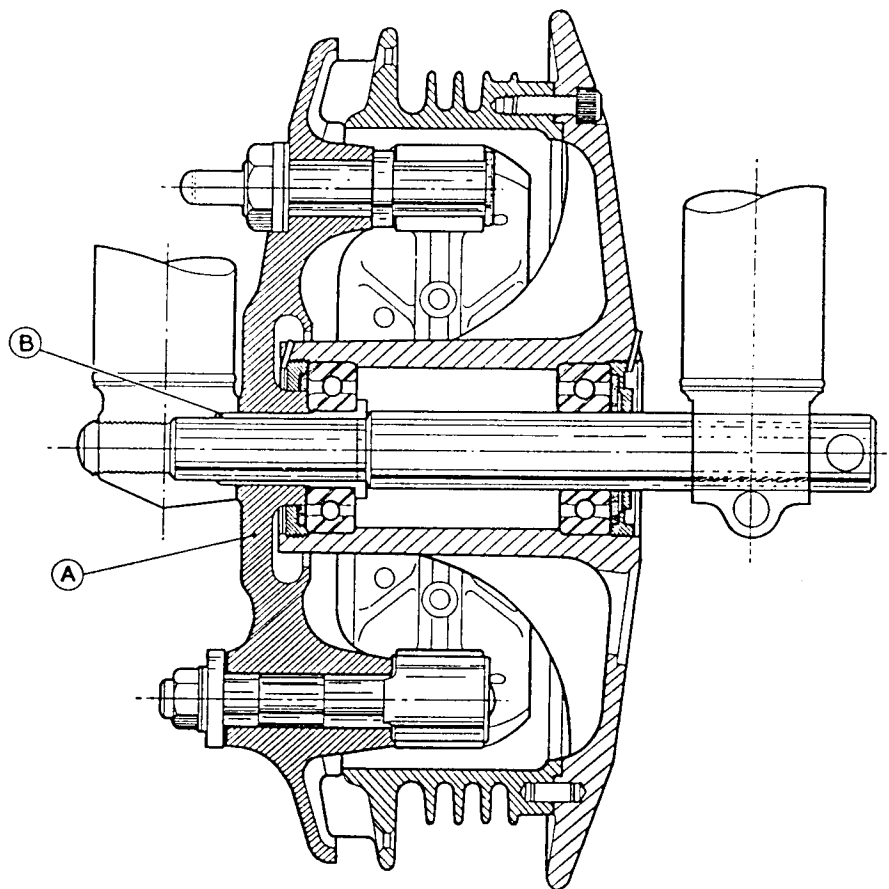

FIG. F.7. Section of 190 mm. hub.
The brake plate (A) is a push-fit over the bush (B) Fig. F.7.